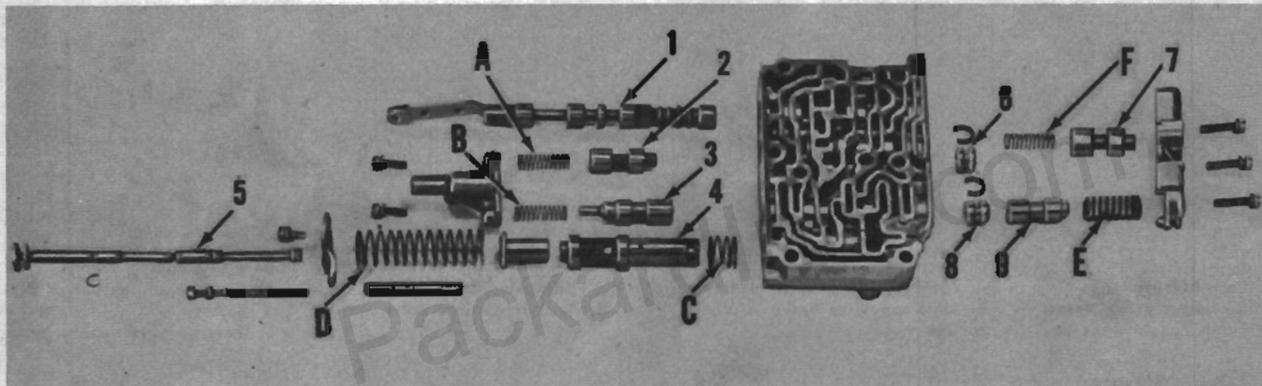

FIG. 376
Remove the throttle limit valve (9, Fig. 376) and throttle limit valve spring (E); and also remove the modulating valve (7), and modulating valve spring (F).